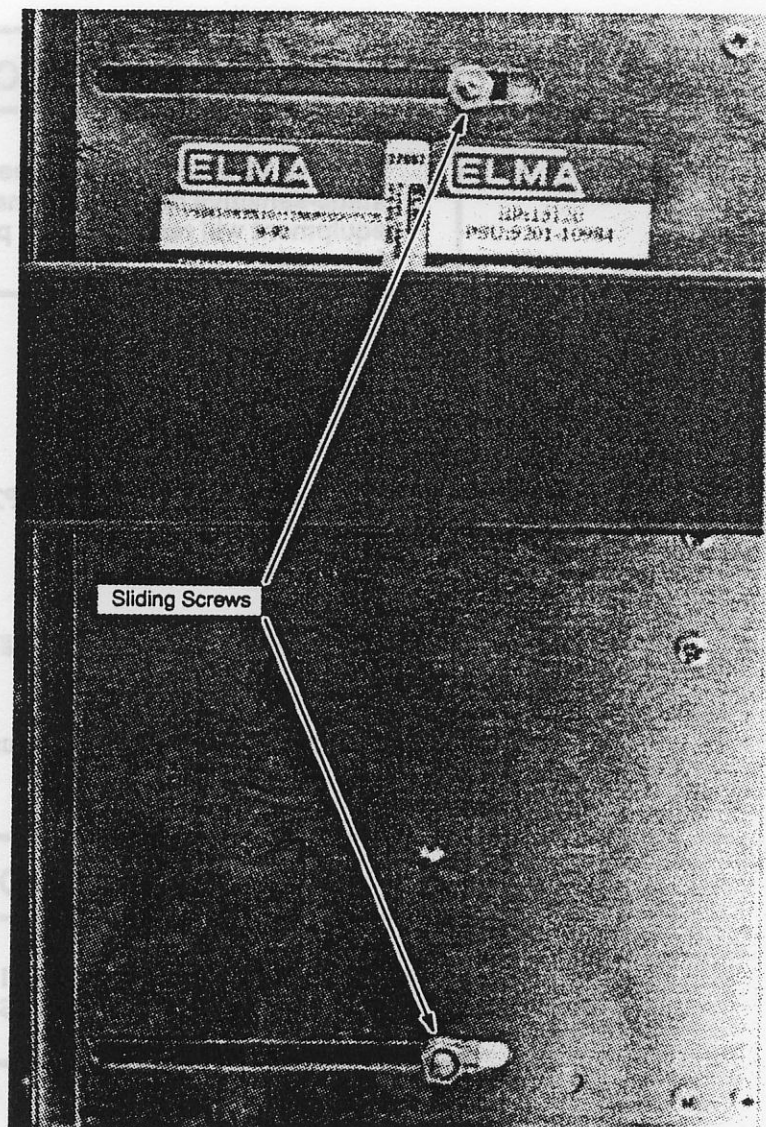

Figure 7-15. VME Power Supply Drawer
5. Loosen, but do not remove, the four nuts (two on each side) that secure the power supplies. Refer to Figure 7-15.